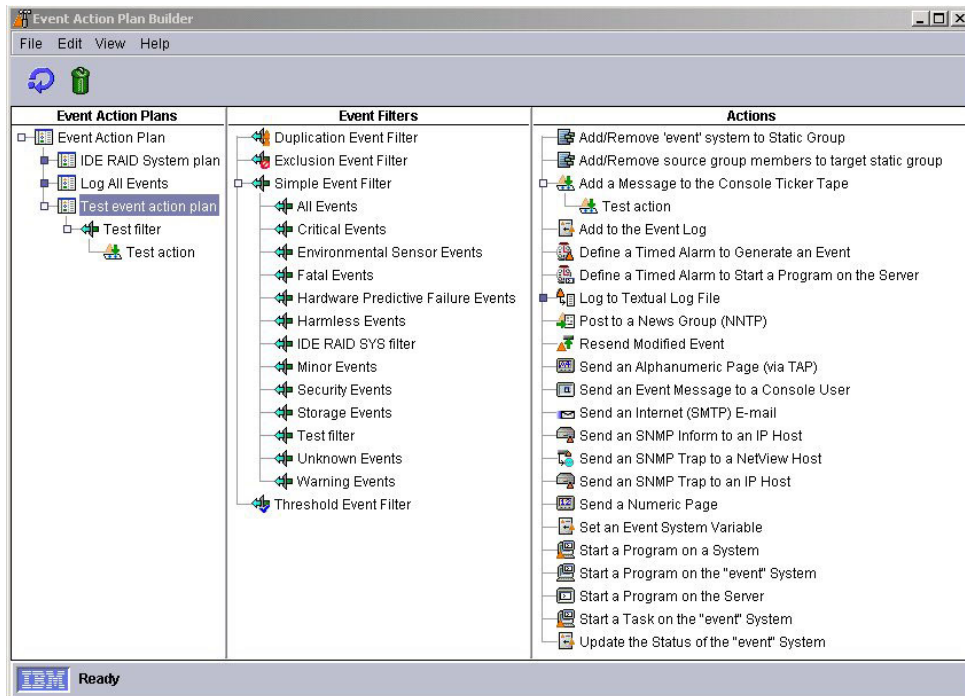

Figure 28. “Event Action Plan Builder” window: Event action plan with an event filter and event action assigned to it
8. From the Actions pane, drag the event action onto the applicable event filter in the Event Action Plans pane. The event action is displayed under the event filter. See the Event Action Plan pane in Figure 28 on page 70 for an example of an event action plan with an event filter and event action assigned to it.